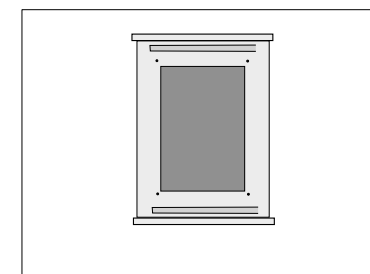

Figure 8
Hold the back frame of your mirror to the wall fitting of the insert open hole area. This is where a friend will come in handy. While you are holding the frame in place against a wall, confirm that the frame is square and level. Locate the (4) mounting holes in the frame. They are 16" apart and should be centered on the two studs in your wall. While holding the frame in place, install the (4) supplied screws into the studs. With the screws installed the frame is now self supporting. If you did not hit a stud you may need to adjust your mirror right or left as necessary. Be sure to anchor your mirror frame to the studs. The mirrors are heavy and if only screwed into drywall over time, they WILL fail, possibly causing damage and injury. So make sure the frame is screwed to the studs. See Figures 8